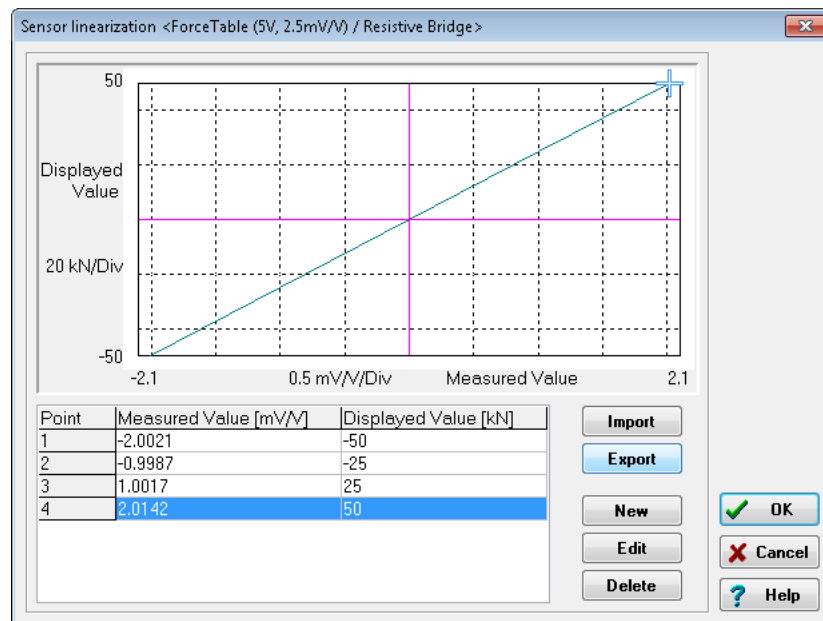

Fig. 5-7 Entering the scaling table.
7. Edit the existing values or generate further rows with **New** and specify the values for your sensor (Fig. 5-7). The rows are sorted based on the entered values.